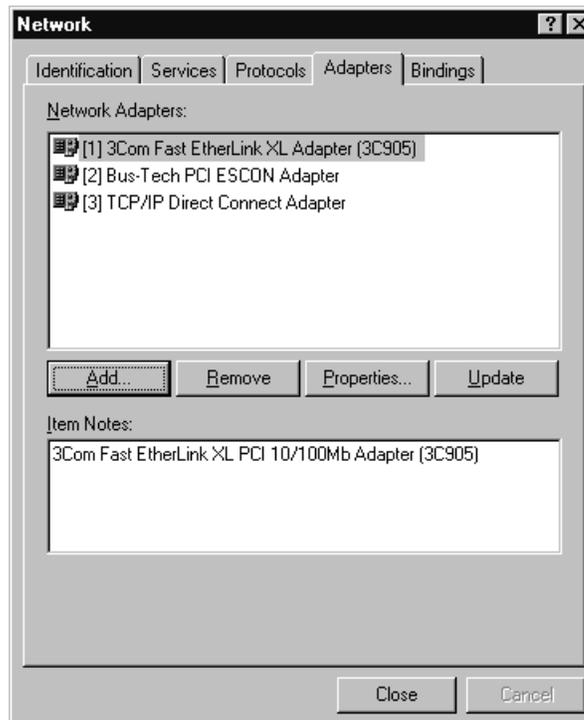

Figure 5-17. Network Adapter List with TCP/IP Direct Connect
8. After defining the fields click **C**lose to save your values and return to the Network Adapters screen (Figure 5-17).